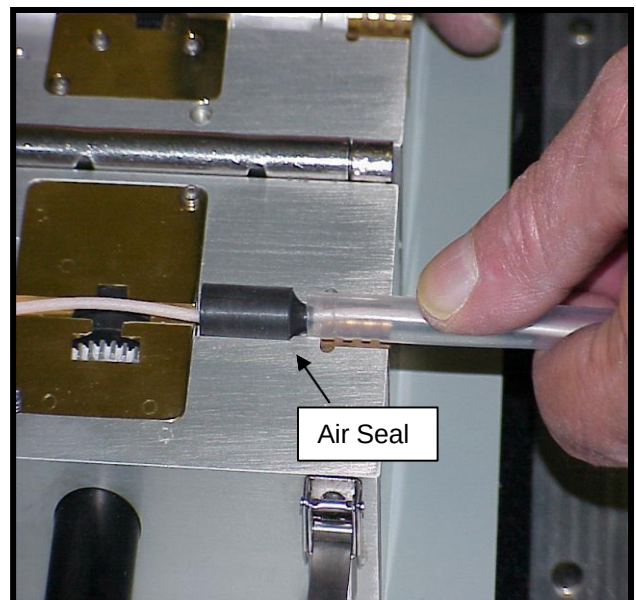

Figure 9
11.4 When tube span has de-pressurized, open Blowing Head and carefully remove Fiber Bundle Air Seal from around Fiber Bundle. **See Fig. 9.**